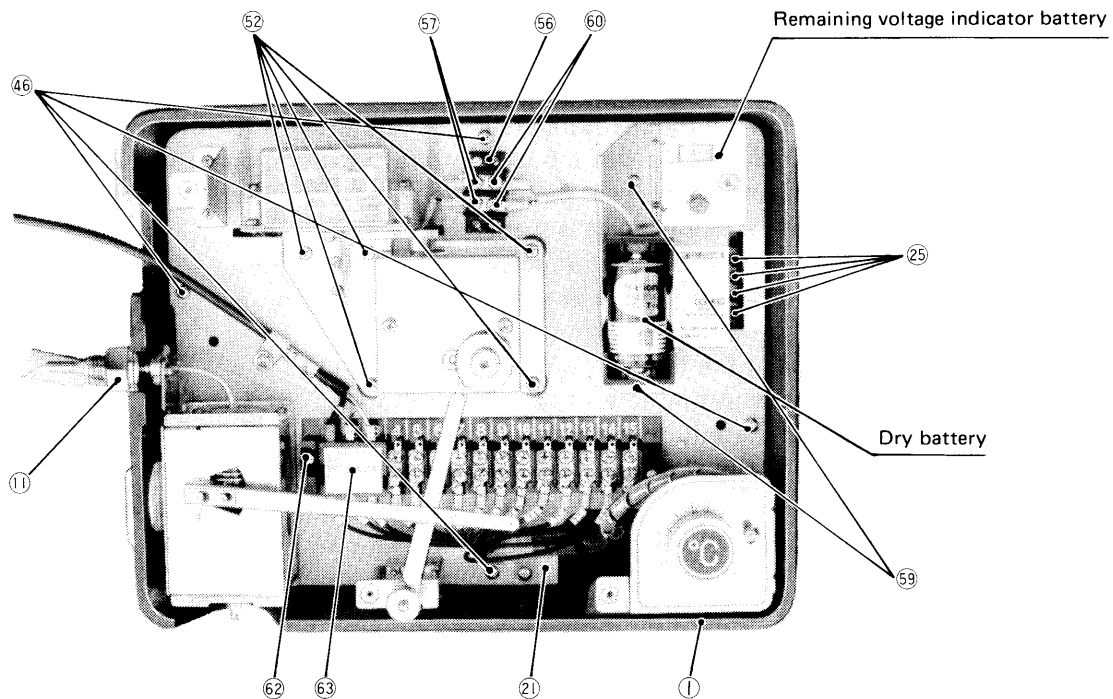

Fig. 3 Internal structure
- (1) Remove the recording plate from the body (1) (See Article [2].2.1) When it is removed, it looks as shown in Fig. 3. In this state, sensor, timer, remaining voltage indicator and batter and dry battery are replaced.
(1) Replacing standards
- In case the pilot lamps for functioning temperature (25) remain unlit although the power source is turned on.
- Remove the recording board, (state shown in Fig. 3). Loosen the screws (62) to remove protection board for impressed voltage (63) loosen terminal screws (Nos. 1 to 3) on the terminal strip (21) and remove the wiring. Then, measure temperature of the feeler part and resistance of the sensor and compare them with the characteristics of temperature resistance shown in Fig. 10, and if they do not accord with them, replace the sensor. If they accord, the main base plate or the volume setter is out of order. So replace it in accordance with Articles [4] 2.1 and [4] 2.2.
(2) Replacing method
- Since numbers (1, 2, 3, ...) are described on the sensor lead wires, so connect them to the terminals having the same number on the terminal strip (21).
- Replace the recording board, and insert a battery so as not make a mistake in polarity as in the state of Fig. 3 (Fig. 3 shows polarity of a battery). It is advisable to use a battery similar to SUM-2 of JIS C8501 and R14 of IEC. (Dry battery DC1.5V)
- Remove the recording board (state shown in Fig.3). Loosen two screw bolts (59) and two screw bolts (60), and the remaining voltage indicator battery can be removed from the indicator body. So replace it with a new battery.
- When replacing, connect the wires to the terminal strip (56) in a way red wire to red and black wire to black.
- Remove the recording board (state shown in Fig. 3). Loosen two screw bolts (57) from the terminal strip (56) to remove the wires. Then remove five screw bolts (58) to replace the timer with a new one.
- When replacing the timer, replace the attached vibration isolators (5 pcs) at the same time. The red wires are for + current and the black wires – current. Connect the wires to the terminal strip (56) in a way that red wires are connected to red and the black wires to black. Tightening torque for vibration rubber is 4 ~ 5 kg-cm.